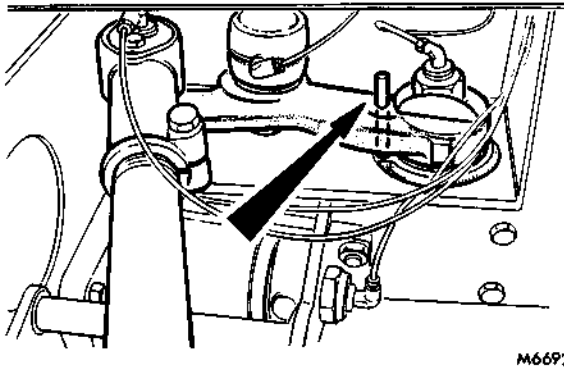

FIG. 3. ALIGNING RELAY LEVER WITH REGISTER ROD
3. Feed the relay lever on the pivot shaft, locating the hole in the relay lever with the register rod in the pivot bracket, see Fig. 3.